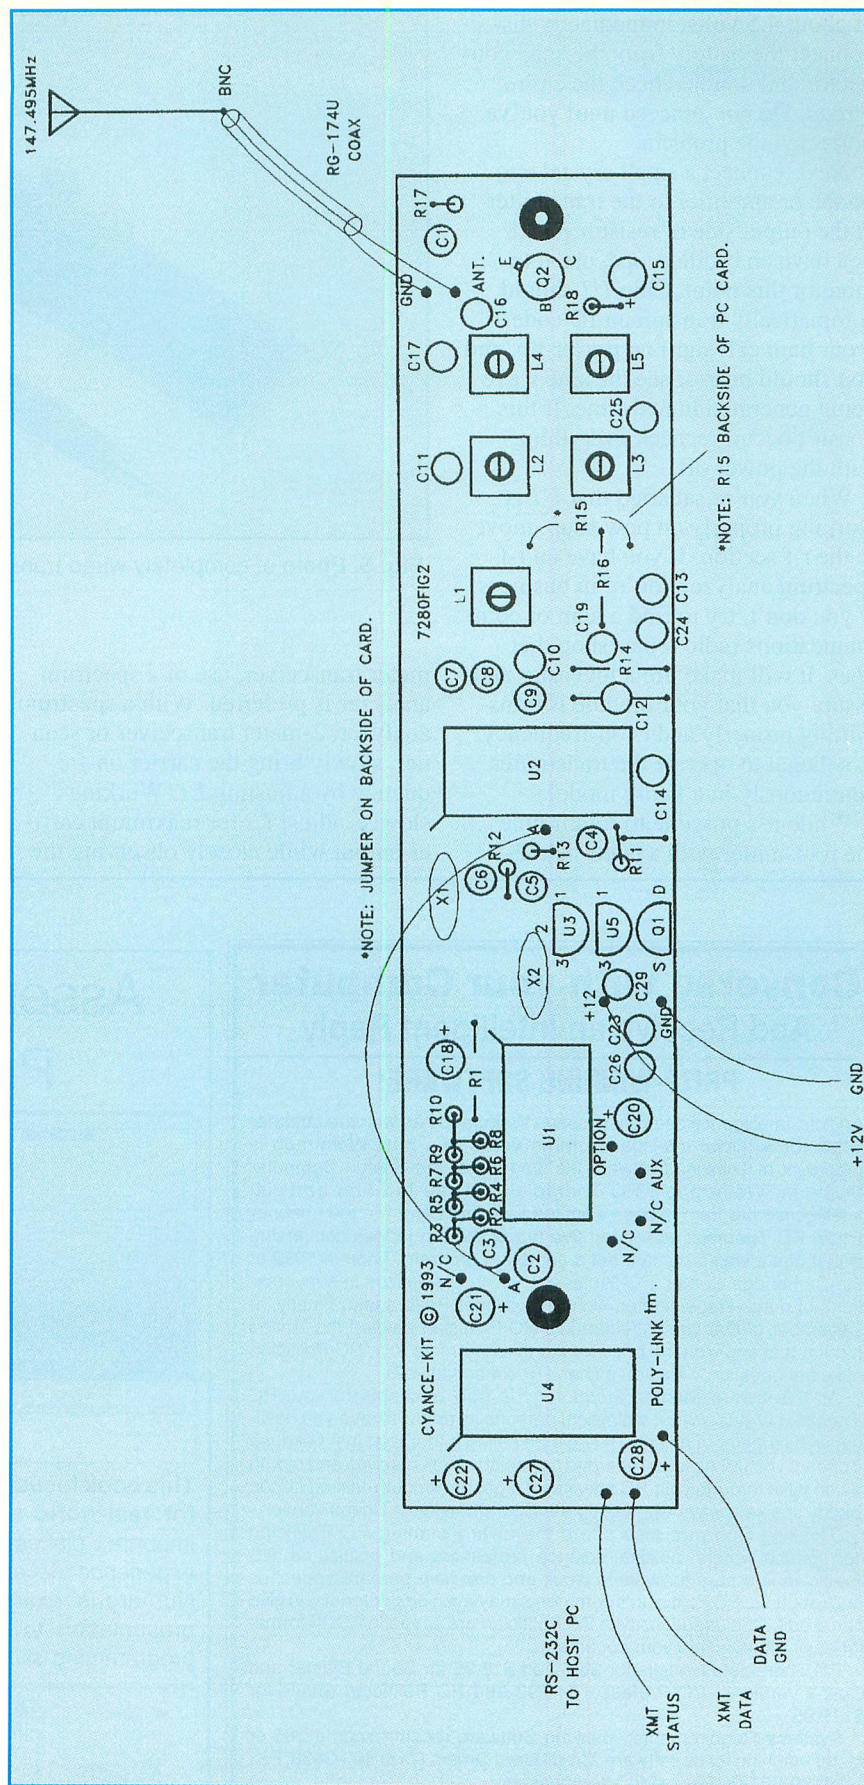

Fig. 4. Wiring guide for transmitter pc board.
• **Transmitter.** Begin populating the transmitter board with the resistors and capacitors, referring to Fig. 4. Use the exact values given in the Transmitter Parts List because they're critical to proper operation of the transmitter. If you don't have a good source for the various components, including the 5-mm coils and inductors, you can get them from the same source mentioned above.